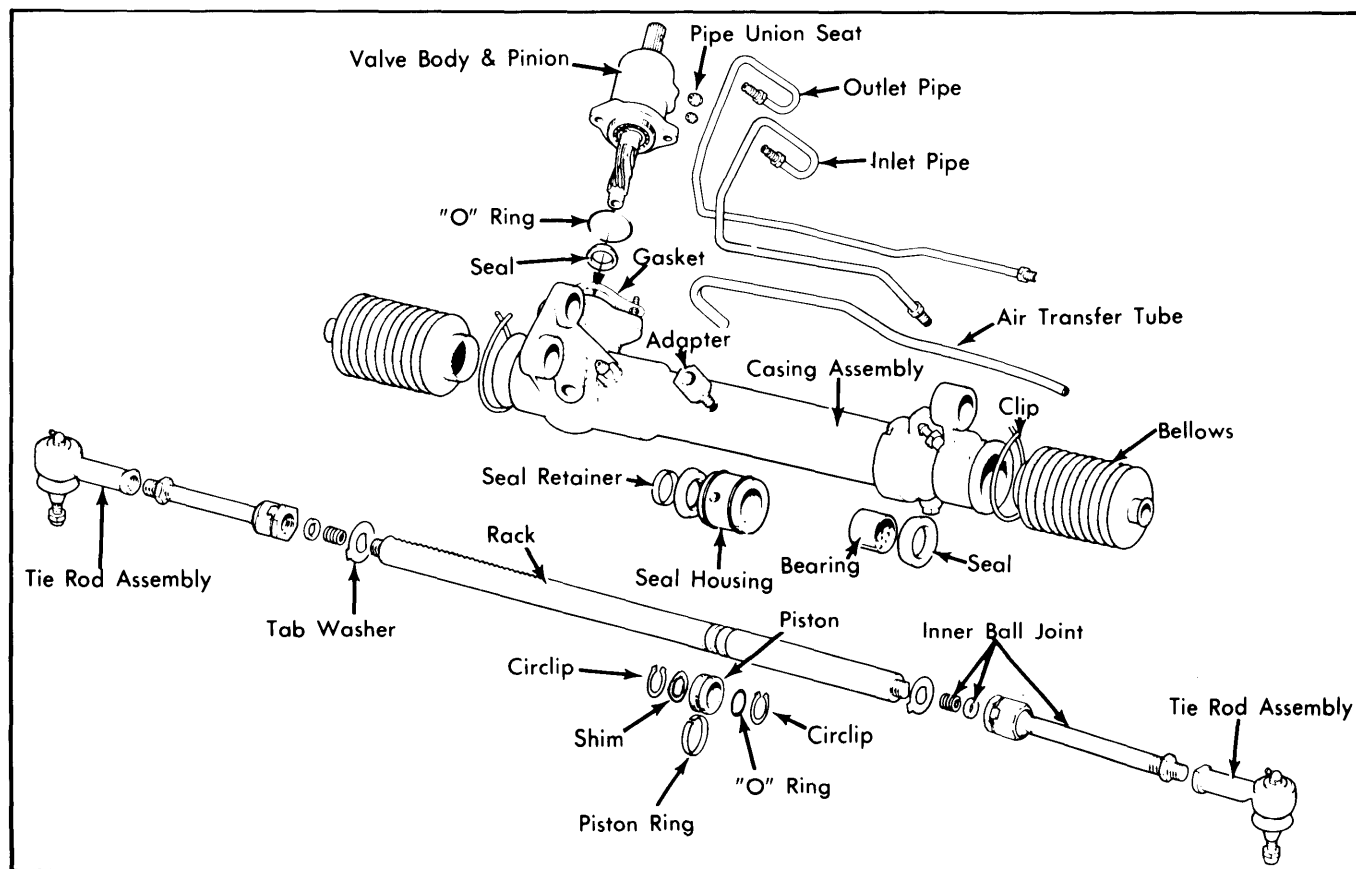

Fig. 2 Exploded View of Power Assisted Rack and Pinion
3) Connect a suitable tap (JD. 10-2) between pump and pressure gauge, isolating rack from pump (See Fig. 2)